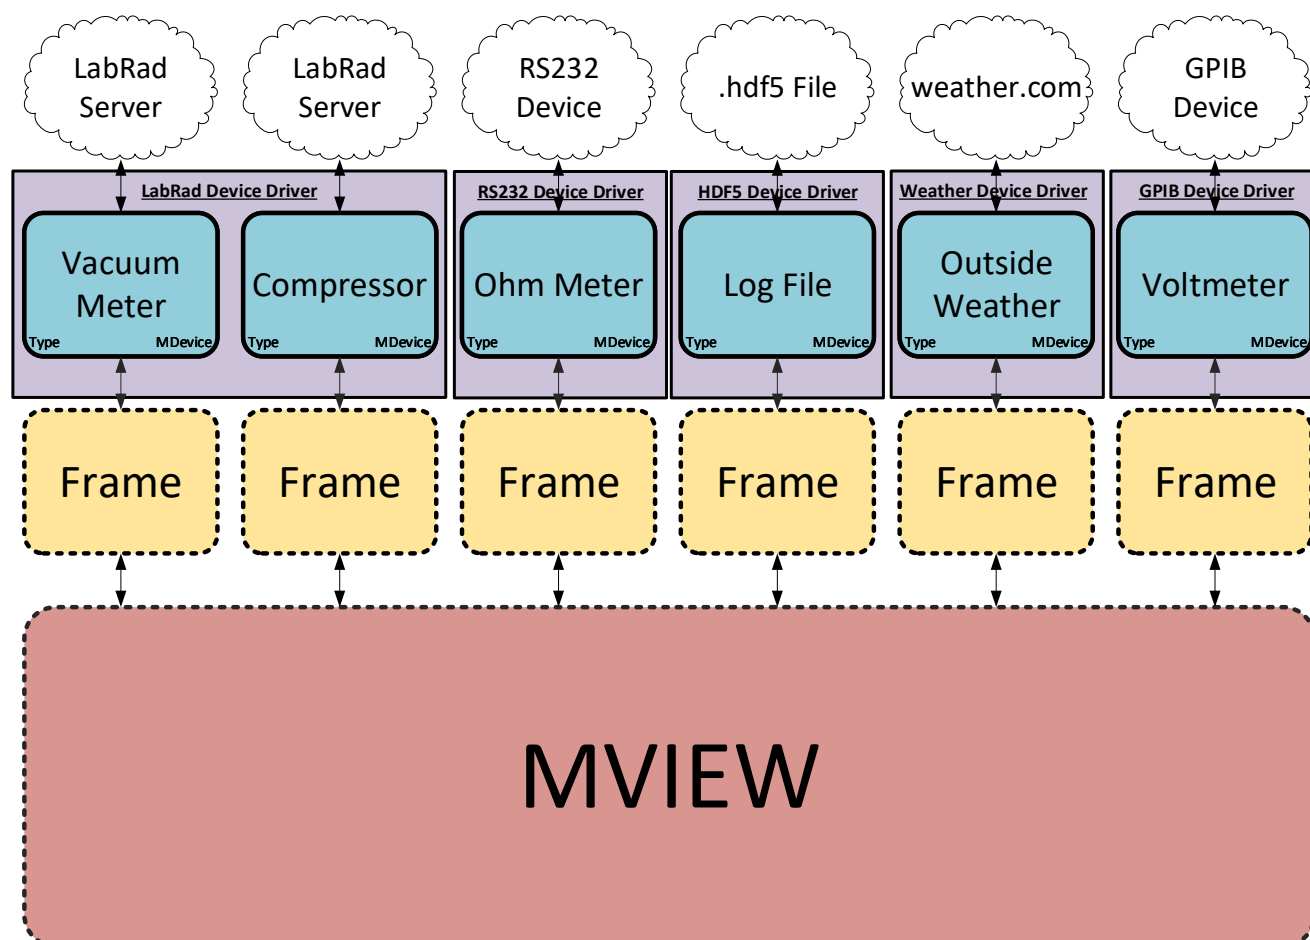

Figure 1: The structure of devices in MView
- Note the ‘Frame’ between MView and MDevice shown in figure 1. Because the all MDevices run on their own thread, they cannot update the GUI directly. The MFrame class provides a thread-safe way for MView to interact with MDevices by forcing all information about a device into exclusively thread-safe data structures which can be accessed either by MView or and MDevice at any time.